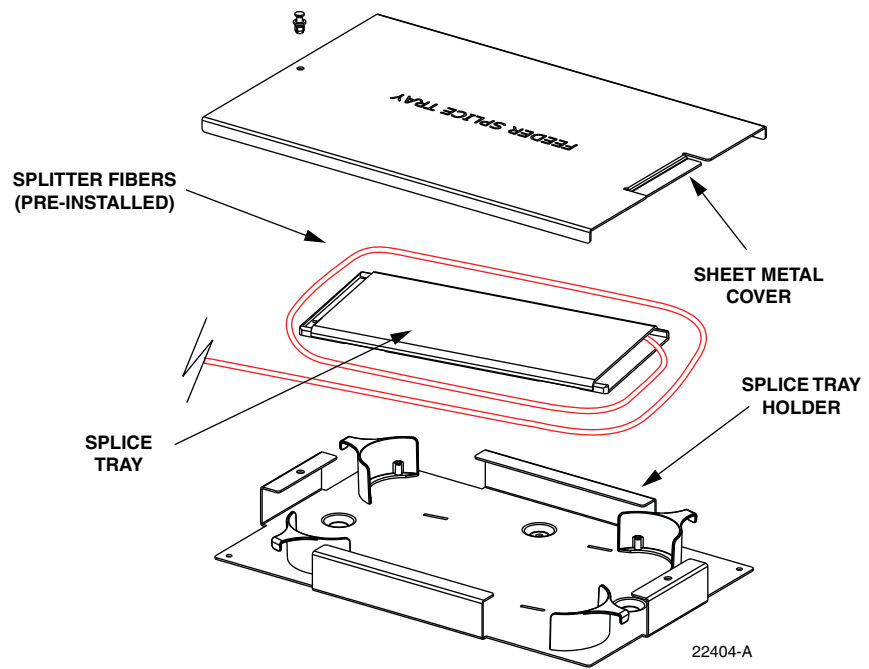

Figure 24. Feeder Splice Tray Assembly
2. Lift the sheet metal cover away from the splice tray holder as shown in Figure 24.